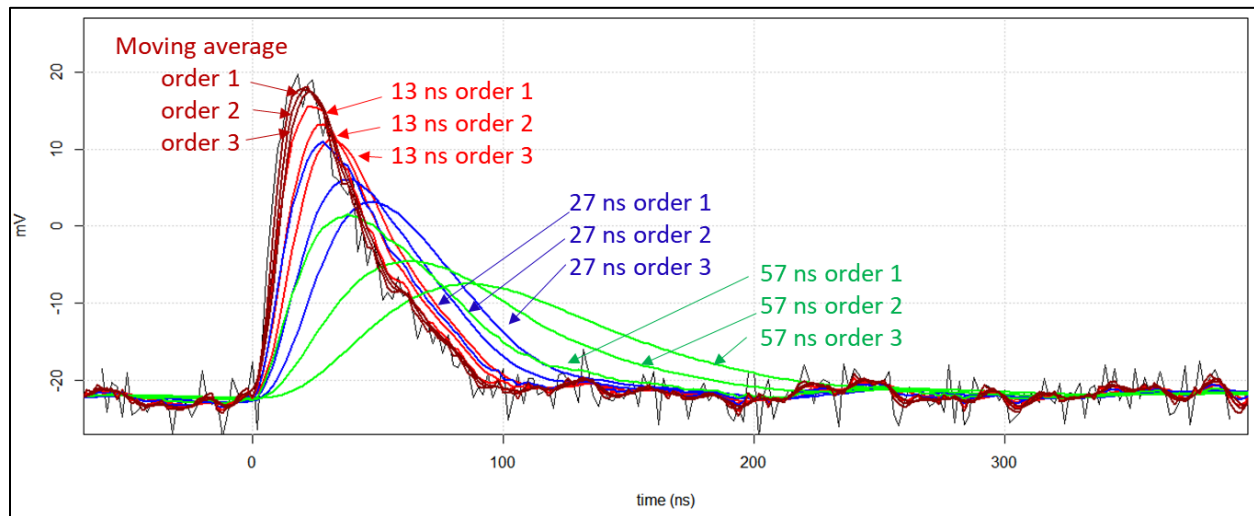

Figure 15: effects of different low-pass filters
He can select the filtering order ③ (Figure 14) : “order 1” means that there is only one low-pass filter, “order 2” means that there are two successive low-pass filters, “order 3” means that there are three successive low-pass filters. Figure 15 shows the different effects of low-pass filters on one electronic pulse.